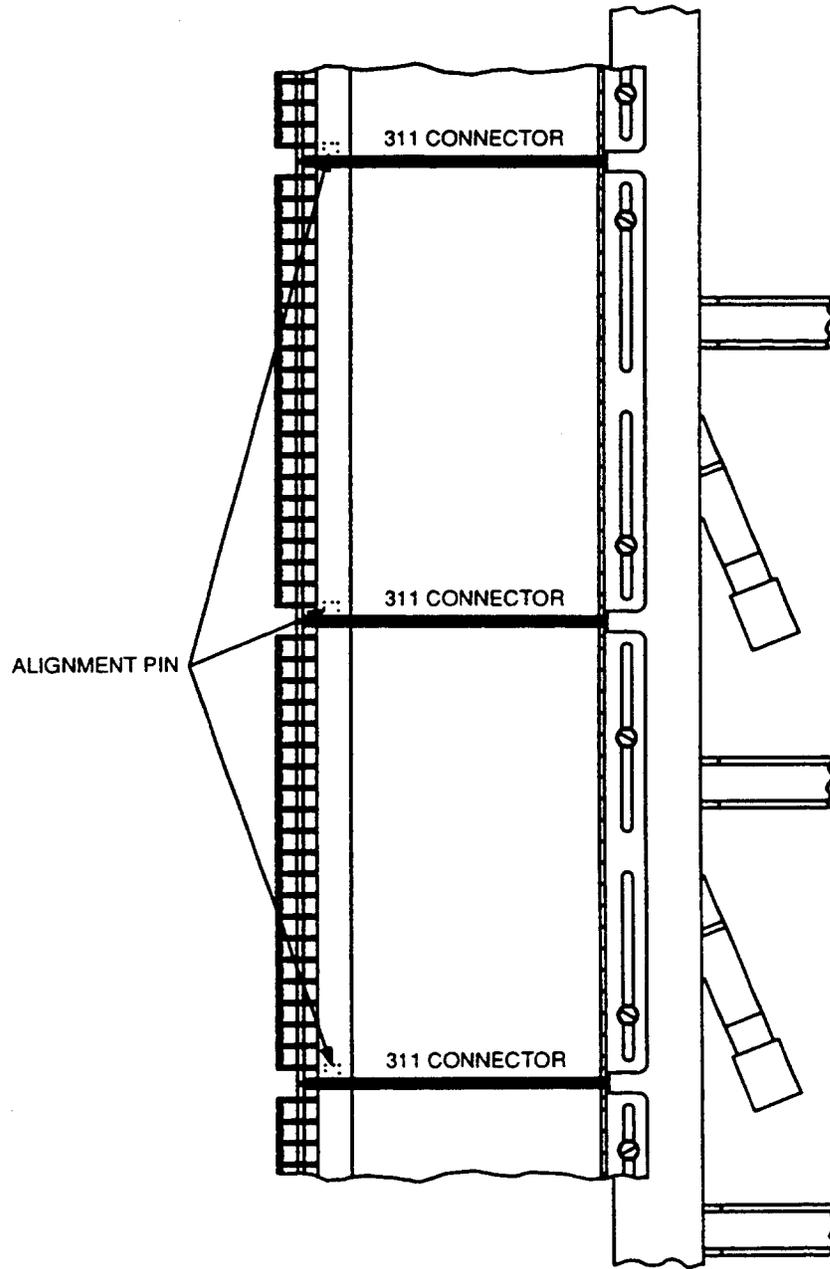

Figure 5. Mounting Arrangement for 311/311L-Type Connector (Existing Mounting Holes)
- (1) On the frame vertical, locate and mark a starting point (representing the bottom edge of the lowermost 311/311L-type connector). A minimum starting point of 6-5/8 inches (16.82 cm) from the floor level is recommended.
- (2) Align the bottom edge of the template (packaged with the connector) with the marked starting point.
- (3) Mark the upper edge of the template on the frame vertical.
- (4) With the template in place, visually determine that a mounting hole is available within each slot of the template or if two holes are available in either slot (Figure 5). If not, a mounting hole must be drilled and tapped and located within a slot. Drill and tap a 12-24 NC thread. Two screws furnished with connector shall be used to mount each connector for adequate grounding purposes. Do not use screws longer than 1/2 inch (1.27 cm).